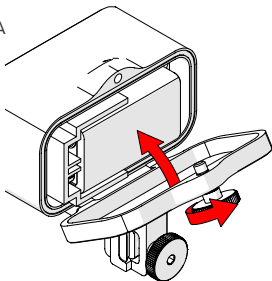

Fig. 22 - Close battery compartment
4. Close the battery compartment and tighten the knob (Fig. 22).